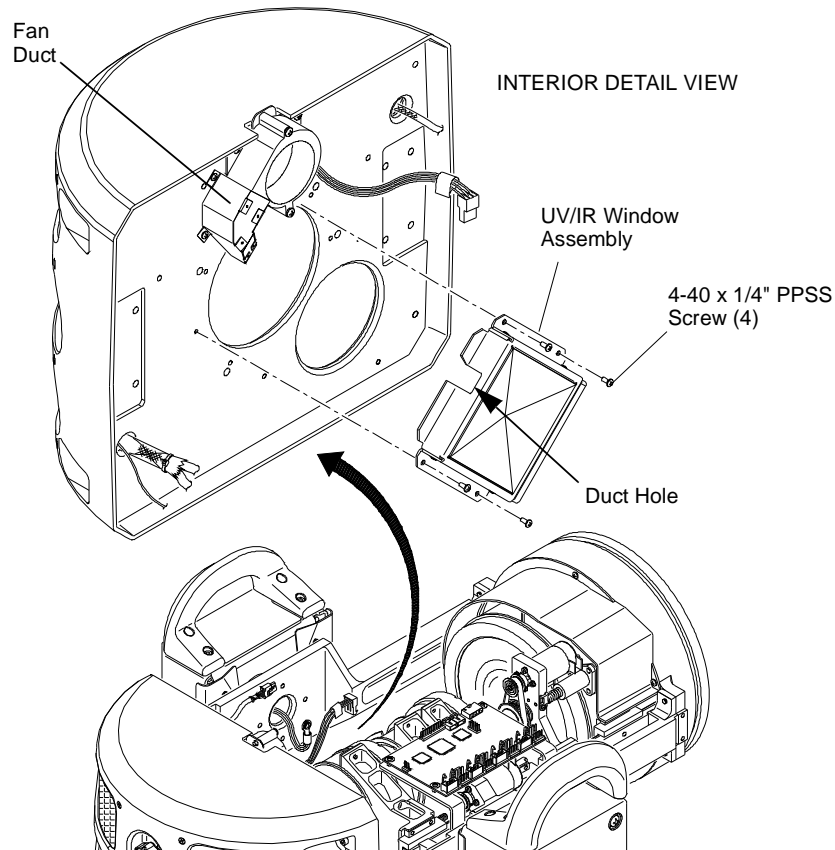

Figure 3-30: Removing UV/IR Window Assembly
- Step 4. Remove UV/IR Assembly by removing four 4-40 x 1/4" PPSS screws (**Figure 3-30**).